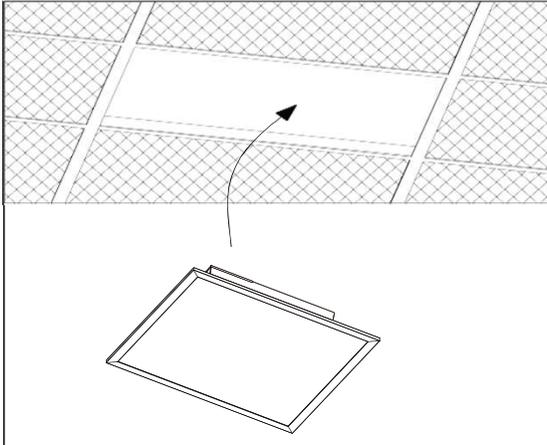

Figure 2
4. Fixture needs to pass through the grid at a 45-degree angle and the fixture needs to lay on the grid. (Figure 2)
2. Place the installed drywall flange kit into the corresponding hole and secure it to the hole with the countersunk head self tapping screws. **(Figure 2)**